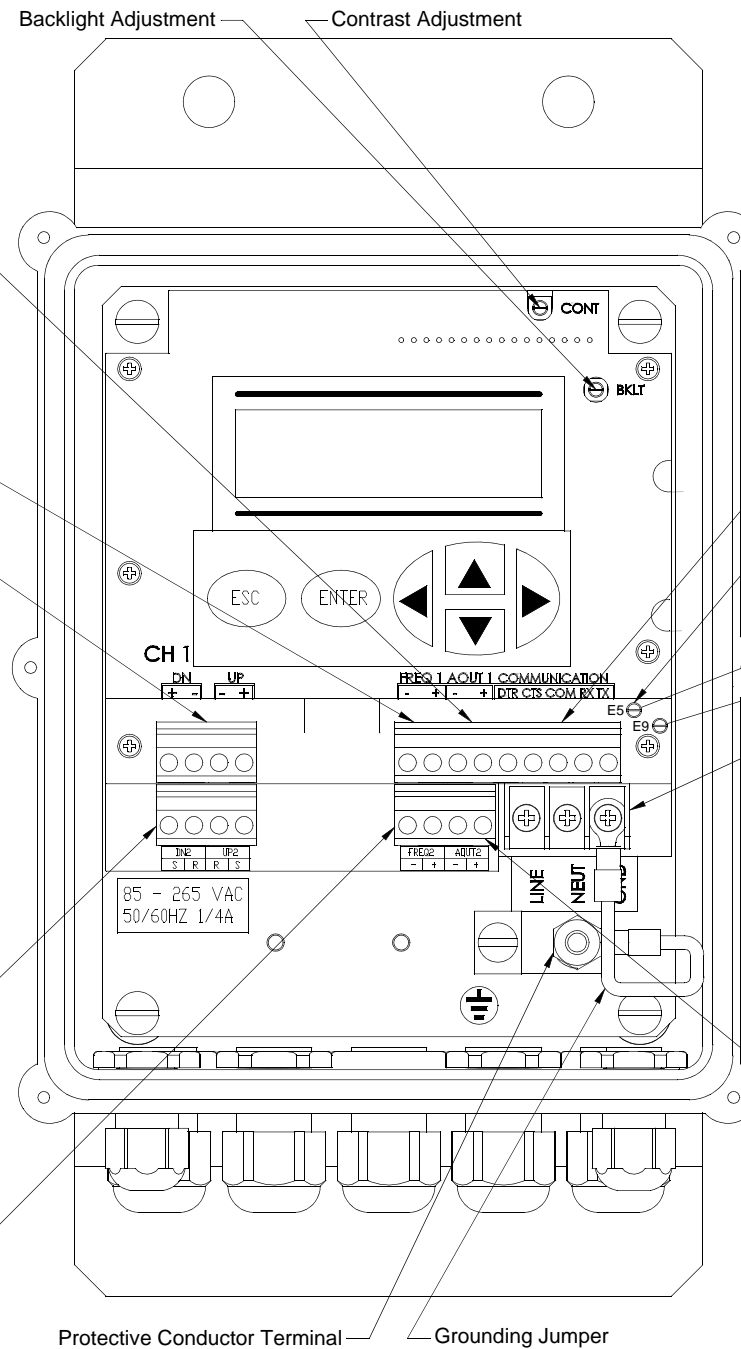

Figure 1-4: Wiring Diagram (#702-425_1)
To wire the RS485 serial port, refer to Figure 1-4 on page 1-16 and complete the following steps:
- 2.** Feed one end of the cable through the conduit hole and wire the leads to the COMMUNICATION terminal block as shown in Figure 1-4 on page 1-16. Secure the cable clamp.
- Feed the wires through the conduit hole and wire lead TMT+ to pin 2 (RX) on the COMMUNICATION terminal block (refer to Figure 1-4 on page 1-16 for the terminal block location).
- Wire lead TMT- to TX pin 1 (TX) on the COMMUNICATION terminal block and secure the cable clamp.
2. Use Figure 1-4 on page -16 to properly connect the external switch to the AT868.